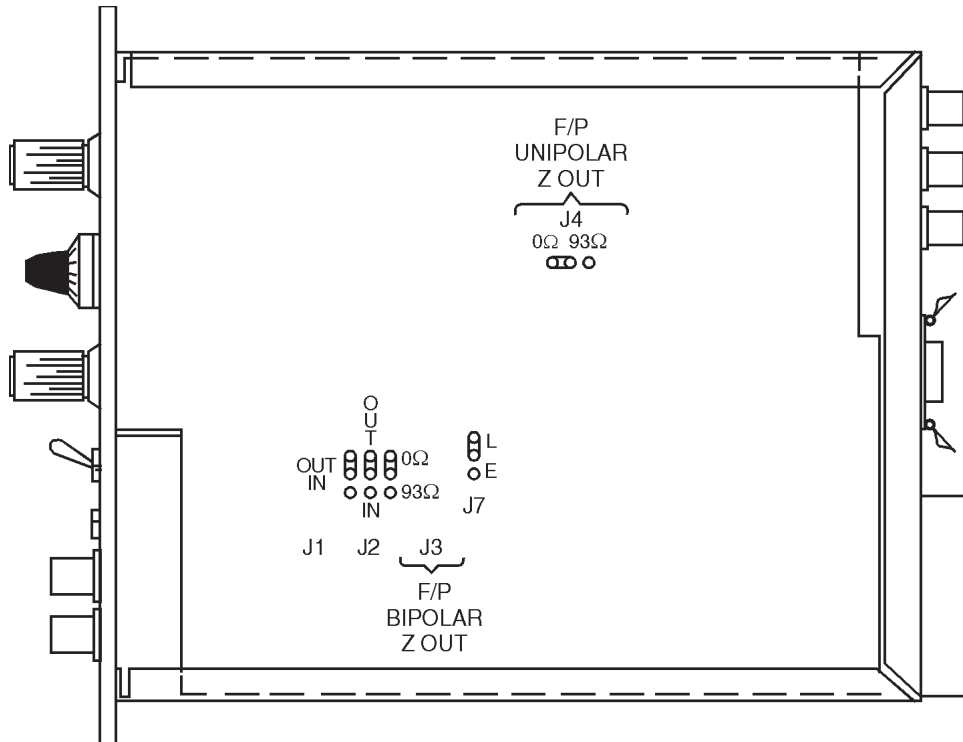

Figure 4 Internal Controls (Right Side Cover Removed)
1. Prior to installation, the internal controls should be set to their desired positions. See Figure 4 for the locations of the controls.
Faster shaping-time constants (0.5 through 4 μs) give rise to output noise spectra having different frequency components than the slower shaping-time constants (5 through 12 μs). The Model 2022 provides a restorer response for each of the two conditions: linear (L) response for the faster time constants and an exponential (E) response for the slower time constants. Jumper plug J7 (see figure 4) selects the required response. Shipped in the linear (L) position. See “System Setup, Internal Controls” on page 6 for more information.